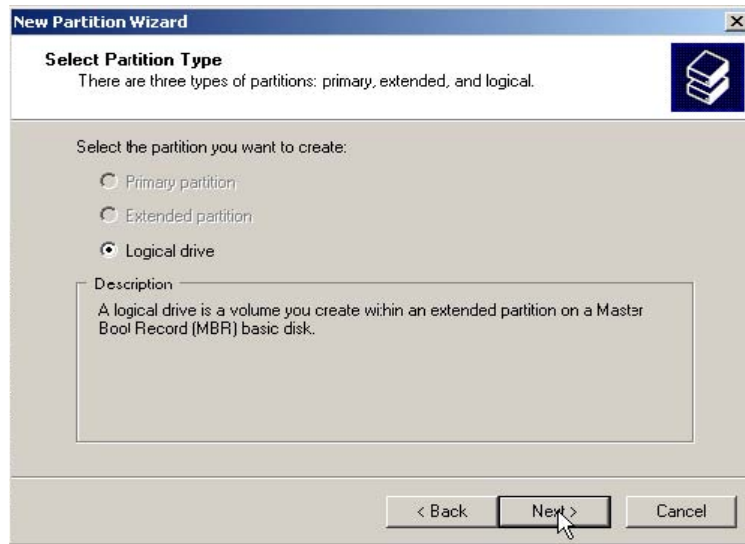

Figure 19
13. Right-click and select **New Logical drive** and click **Next** on New Partition Wizard. (See Figure 19)